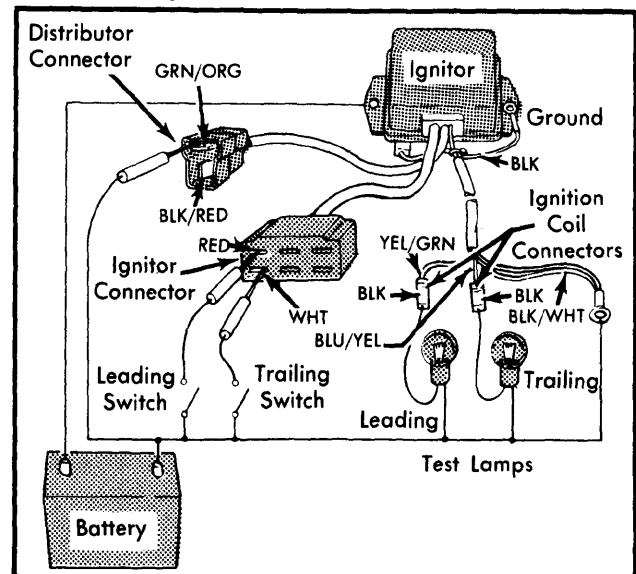

Fig. 5 Test Lamp Hookup for Checking Ignitor Operation
1) Disconnect connectors from pick-up coil lead and from ignition coils. See Fig. 5. Disconnect 2-pin connector from between switches and ignitor.
2) Make a circuit as shown in Fig. 5. Use two 12 volt lamps with less than 10 watt rating. Operate switch "ON" and "OFF" to be sure test lamps work. Apply battery power to green/orange wire in 2-pin connector. Operate trailing side switch "ON" and "OFF". Trailing side lamp should not flash.